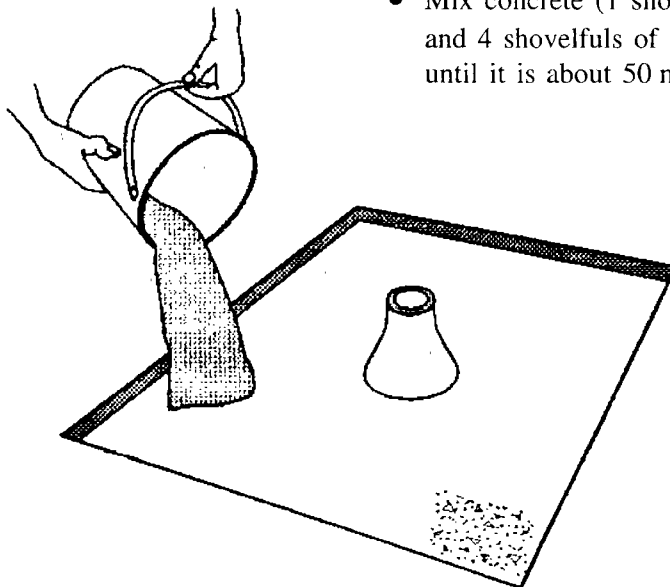

Figure 15. Laying the concrete
- Mix concrete (1 shovelful of cement, 2 shovelfuls of sand and 4 shovelfuls of gravel with water) and pour into the pit until it is about 50 millimetres thick (see Figure 15).